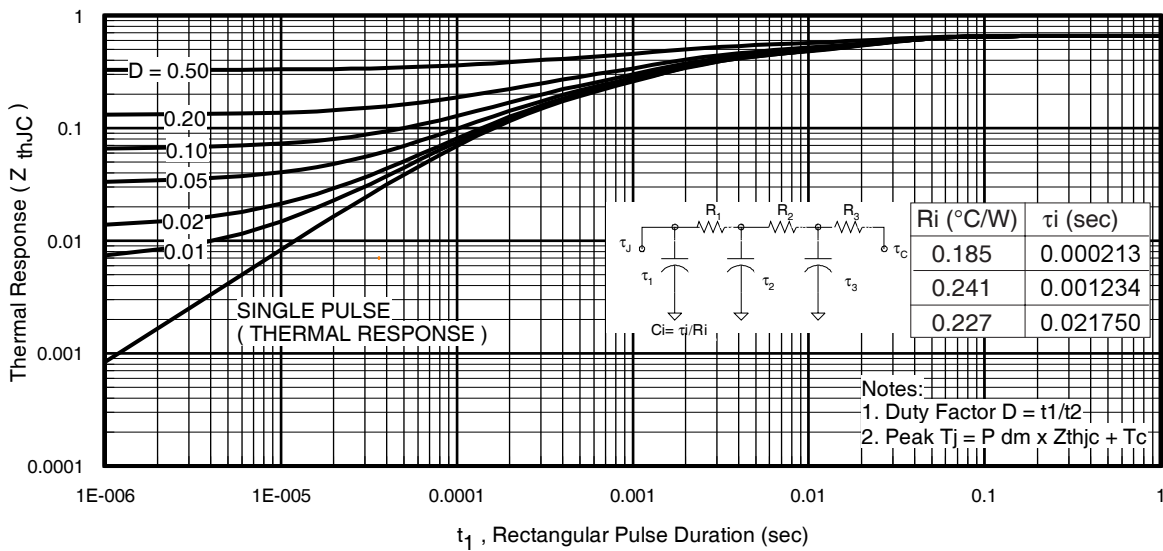

Fig 11. Maximum Effective Transient Thermal Impedance, Junction-to-Case
- ① Repetitive rating; pulse width limited by max. junction temperature. (See fig. 11).
- ② Limited by T_{Jmax} , starting $T_J = 25^\circ\text{C}$, $L = 0.079\text{mH}$, $R_G = 25\Omega$, $I_{AS} = 75A$, $V_{GS} = 10V$. Part not recommended for use above this value.
- ③ Pulse width $\leq 1.0\text{ms}$; duty cycle $\leq 2\%$.
- ④ $C_{oss \text{ eff.}}$ is a fixed capacitance that gives the same charging time as C_{oss} while V_{DS} is rising from 0 to 80% V_{DSS} .
$Z_{thJC}(D, t_{av})$ = Transient thermal resistance, see figure 11)